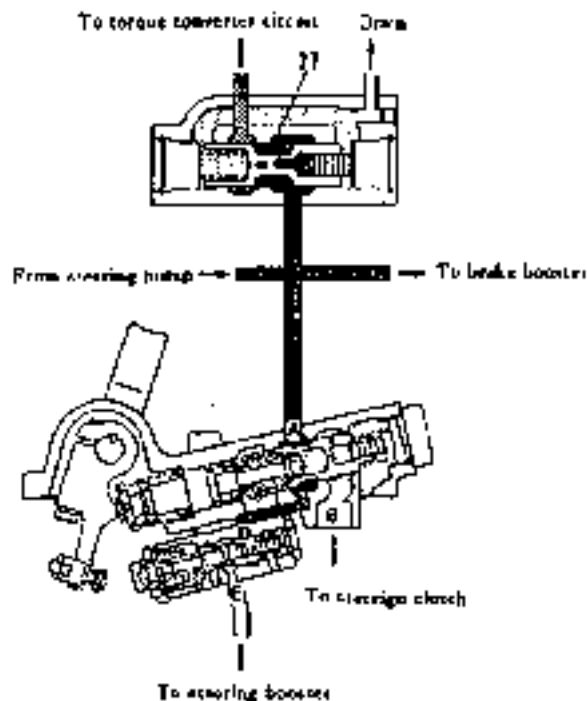

Fig. 2-71
(1) When the steering and brake valves are in neutral:
The oil from the steering pump enters main regulator valve (27) and port A and D of the steering control valve. Since the circuit to the steering clutch and brake booster are closed, the oil pressure in the circuit rises. As a result, main regulator valve (27) opens and the oil flows to the torque converter circuit. If the steering lever is not operated, the oil will continuously be relieved to keep the clutch applied and the brake released. The oil pressure in the circuit in this state is 2.16MPa (as shown in Fig. 2-71).